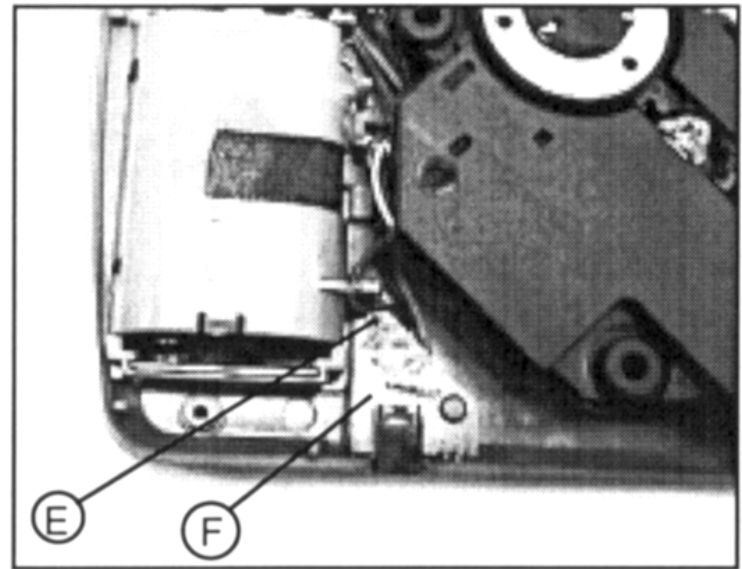

Fig. 6
- Undo 1 screw ⑤ (Fig. 6)
- Remove DC Jack Board ⑥ (Fig. 6)